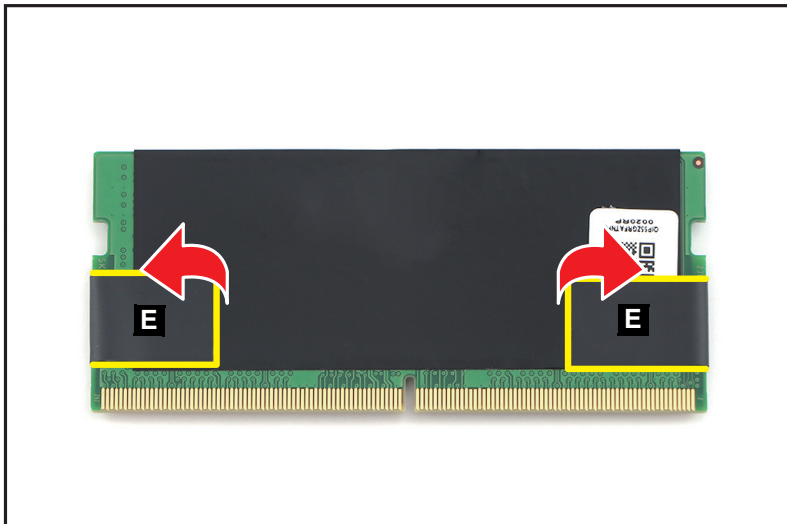

Figure 1-29. DIMM Module Removal
5. Detach the tabs (E) of the composite foil with thermal pad from the DIMM module as shown in Figure 1-29.